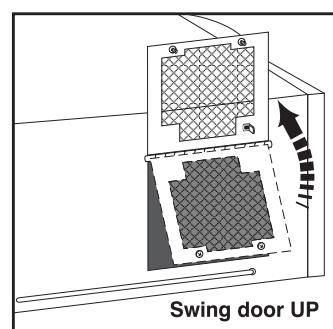

Figure 4.3.
- See Figure 4.3. Loosen the 2 screws fastening the lamp door shut.